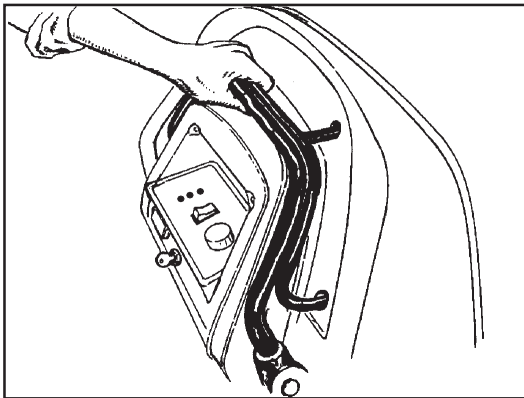

Figure 10
3. To go forward, push the control handles toward the machine. See figure 10.
3. Pour avancer, poussez la manette de commandes vers la machine. Cf. figure 10.